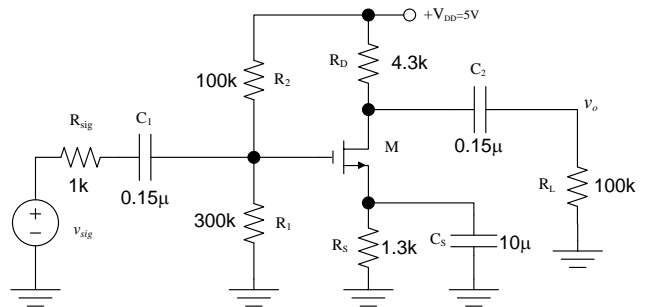

Figure 6: Circuit for example 2.
2. The input file of the circuit of Figure 6 is: